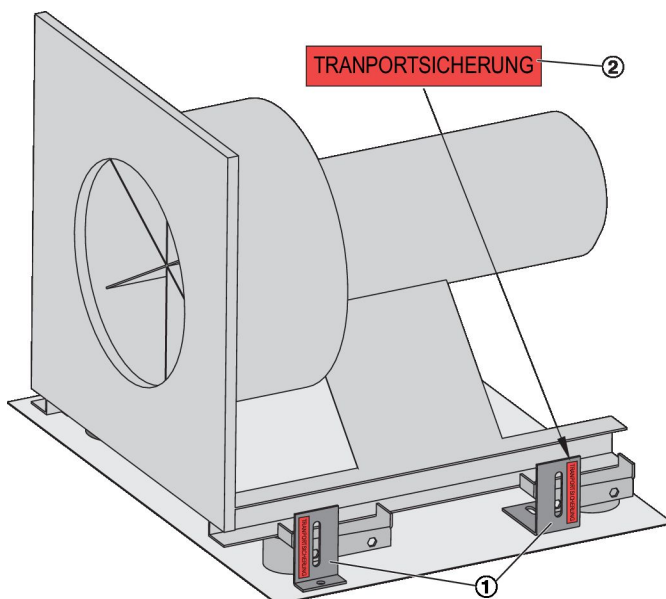

Fig. 11: Transport protection brackets
1. ▶ Remove the brackets ( Fig. 11 /1) that are marked with a red sticker ( Fig. 11 /2).